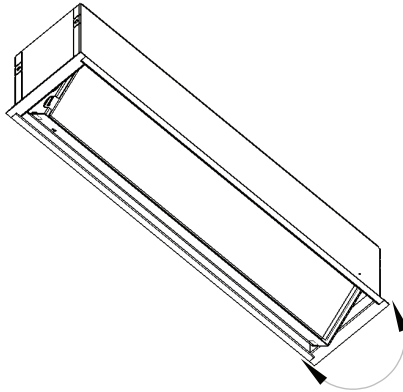

Figure 6
a.) Rotate the carriage to the desired position (Figure 6).